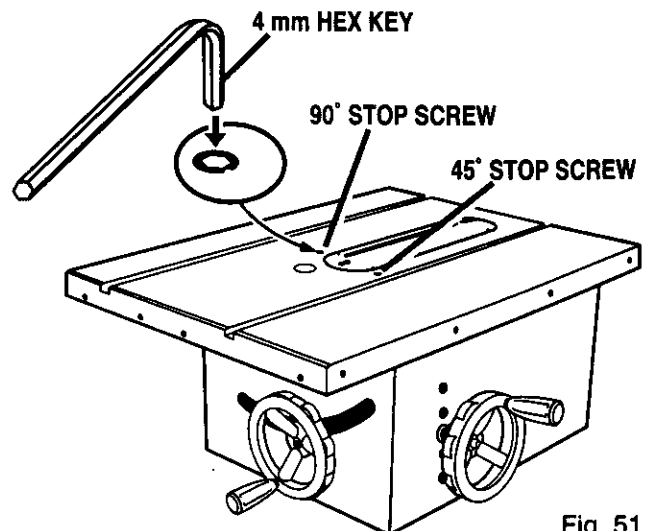

Fig. 51
- If the blade angle is wrong, adjust the 90° stop screw (left of the blade, looking from the front). See Figure 51. Start by turning the 90° stop screw three or four times with a 4 mm hex key.